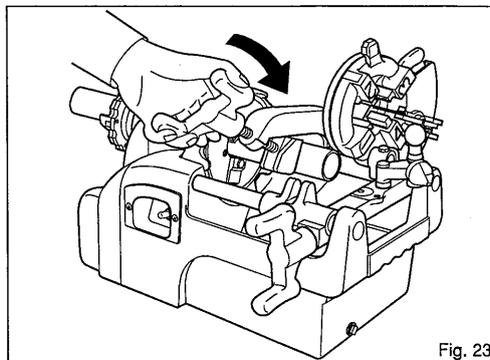

Fig. 23
- (1) As the die head and reamer will not be used when cutting pipes, lift them out of the way.
- (2) Determine the position at which the pipe is to be cut, then fasten the pipe securely.
- (3) Open the pipe cutter to a position wider than the pipe diameter. Place the pipe in the cutter as shown in the figure, aligning the blade with the cutting position on the pipe. Then use the handle to move the roller and blade until they rest lightly against the pipe.
- (4) Set the switch to the ON position, then turn the cutter handle up to 1/2 turn for each rotation of the pipe (Fig. 23). Avoid cutting with excessive force from the beginning, or the shape of the pipe may become distorted, preventing you from making accurate circular threads. Throughout the process, turn the cutter handle against the pipe lightly and evenly.